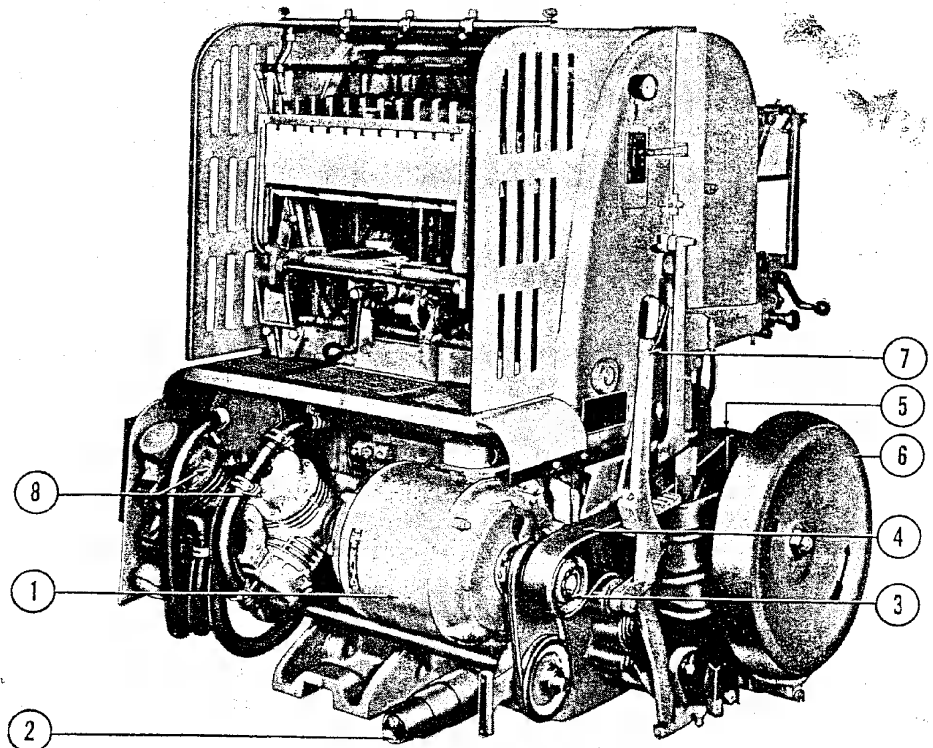

Figure 9—Drive and Air Pumps
g. **DRIVE.** (See figure 9.)—The V-50 press is driven by a 3 h.p. constant speed motor (1). Five speed-change pulleys (2) supplied with the press are easily installed on a motor drive shaft splined adaptor (3) and provide for press speeds of 3,000, 3,500, 4,000, 4,500 and 5,000 impressions per hour. A press driving belt (4) links the speed pulley directly with a flywheel pulley (5) which in turn is directly geared with the press main cam shaft. A heavy flywheel (6) attached to the flywheel pulley shaft insures smooth press operation. A belt tightener lever (7) provides for gradual starting or stopping of the press, while the drive motor is running, by flywheel braking and belt slacking adjustment.
i. AIR SYSTEM.—The blast and suction for the press are supplied from two diaphragm-type pumps, (8) figure 9, mounted at the delivery end of the press. The pumps are belt driven from a common drive shaft which is belt connected to the press motor drive shaft. The mounts for the pumps and motor are screw adjustable to maintain proper belt tension. The pumps require no lubrication, thereby reducing the possibility of oil entering the blast lines and staining the job being run.